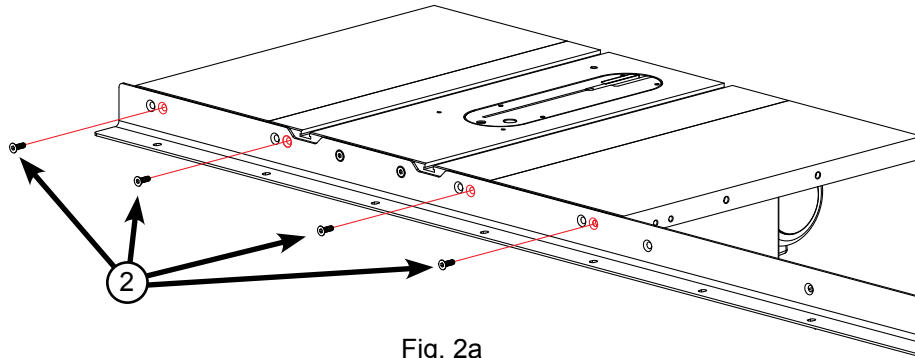

Fig. 2a
2. Take four more M8 x 25 countersunk socket head bolts and insert them through the four open holes in the front rail and table (see Fig. 2a). Place an M8 washer and an M8 lock washer on the threaded end of each of the bolts and then thread an M8 hex nut on each bolt (see Fig. 2b). Hand tighten the nuts; do not fully tighten them.